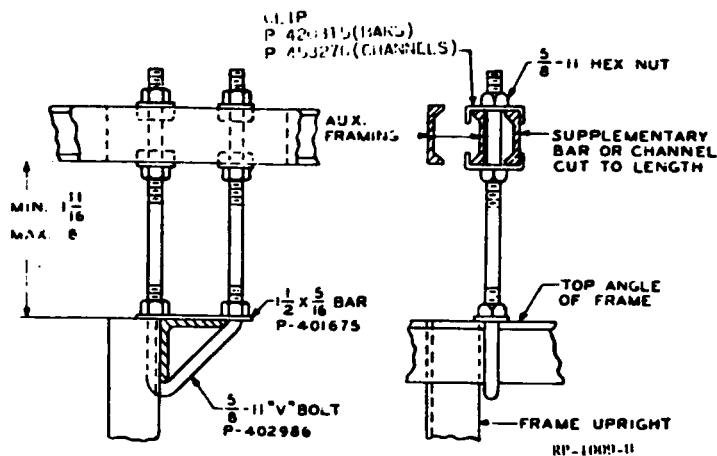

FIG. 7D V-BOLT FRAME SUPPORT OFFSET TO CLEAR FRAME UPRIGHTS (PAR. 4.31) (BSP 800-614-155, FIG. 7D)
4.31 Where frames with single top angles are installed in No. 5 crossbar offices having auxiliary framing at the usual 11'-9-1/2" level, the frames shall be attached to the framing using V-bolts, clips, etc., as shown in Figures 7B or 7E. Where auxiliary framing is directly over the frame upright, the V-bolt shall be connected as shown in Figure 7D.